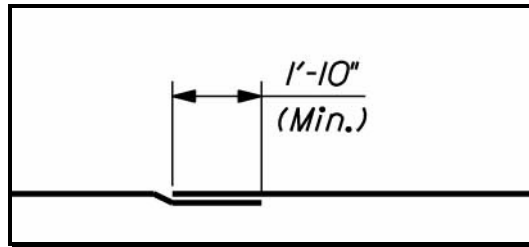

Figure 8-5 Splice Length
- ♪ The “kink” in the bar on the left of Figure 8-5 is a symbol to indicate that the two bars are in physical contact and wired together. It does not represent an actual bend in the bar.